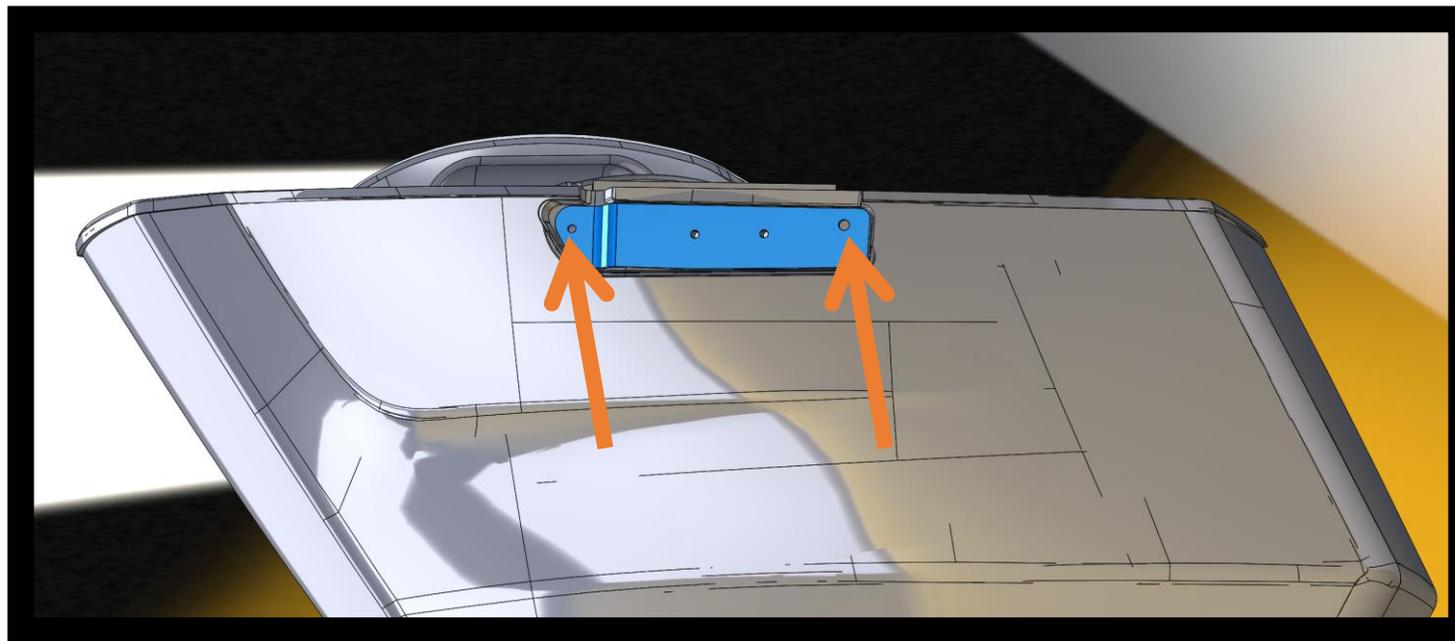

Figure 1
- Insert (4) stand-off locators into hinge screw holes to align jig.
- Drill (2) outer mounting points thru saddlebag with 11/64" (4 mm) drill bit, as shown in Figure 1 below.